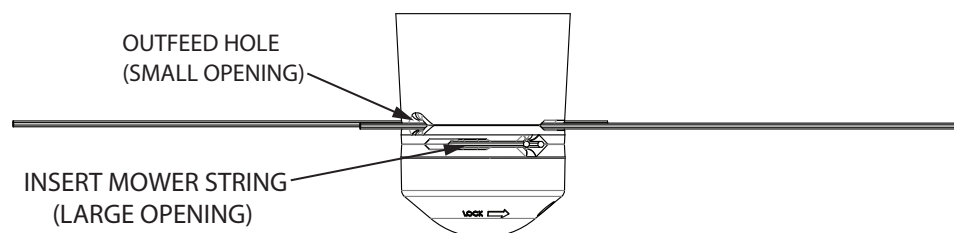

FIGURE 9: Replace Mower String
3. Thread one end of the new mower string through the insertion hole in the head. **SEE FIGURE 9**